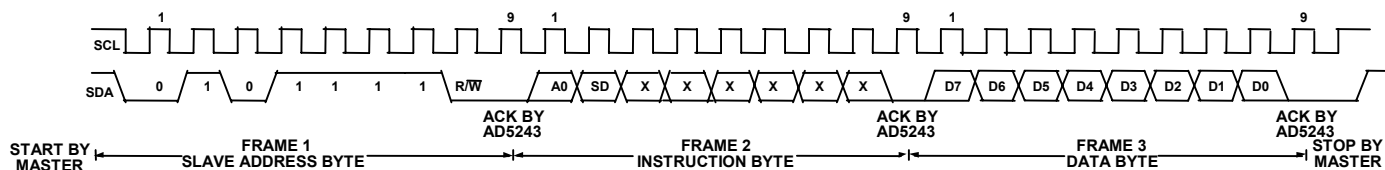
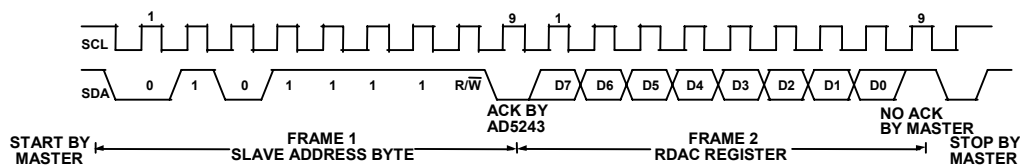
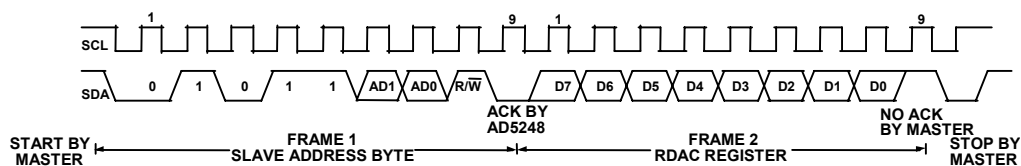

Figure 13. Writing to the RDAC Register – AD5243
Figure 15. Reading Data from a Previously Selected RDAC Register in Write Mode – AD5243
Figure 16 Reading Data from a Previously Selected RDAC Register in Write Mode – AD5248
1. The master initiates data transfer by establishing a START condition, which is when a high-to-low transition on the SDA line occurs while SCL is high (see Figure 13). The following byte is the slave address byte, which consists of the slave address followed by an R/W bit (this bit determines whether data will be read from or written to the slave device). The AD5243 has a fixed slave address byte whereas the AD5248 has two configurable address bits AD0 and AD1 (see Table 5).
3. In the read mode, the data byte follows immediately after the acknowledgment of the slave address byte. Data is transmitted over the serial bus in sequences of nine clock pulses (a slight difference with the write mode, where there are eight data bits followed by an acknowledge bit). Similarly, the transitions on the SDA line must occur during the low period of SCL and remain stable during the high period of SCL (see Figure 15 and Figure 16).
Note that the channel of interest is the one that is previously selected in the Write Mode. In the case where users need to read the RDAC values of both channels, they need to program the first channel in the Write Mode and then change to the Read Mode to read the first channel value. After that, they need to change back to the Write Mode with the second channel selected and read the second channel value in the Read Mode again. It is not necessary for users to issue the Frame 3 data byte in the write mode for subsequent readback operation. Users should refer to Figure 15 for the programming format.
4. After all data bits have been read or written, a STOP condition is established by the master. A STOP condition is defined as a low-to-high transition on the SDA line while SCL is high. In write mode, the master will pull the SDA line high during the tenth clock pulse to establish a STOP condition (see Figure 13). In read mode, the master will issue a No Acknowledge for the ninth clock pulse (i.e., the SDA line remains high). The master will then bring the SDA line low before the tenth clock pulse which goes high to establish a STOP condition (see Figure 15 and Figure 16).